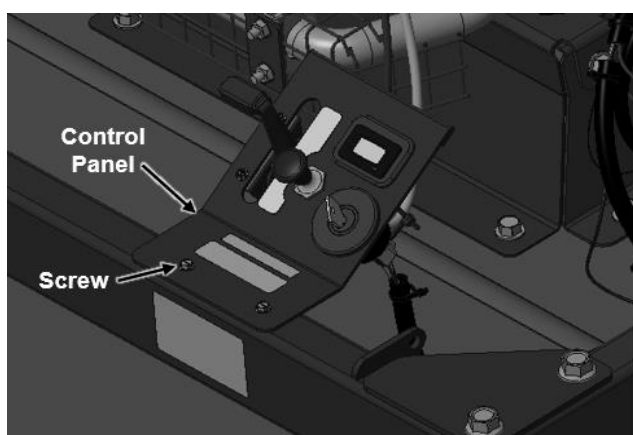

Figure 7
1. Install the Control Panel to Frame Rear Side (**Figure 7**).
2. Secure Control Panel to Frame using of two 10-32 x 0.5 in self-tapping screws PN: 111701 (**Figure 7**).